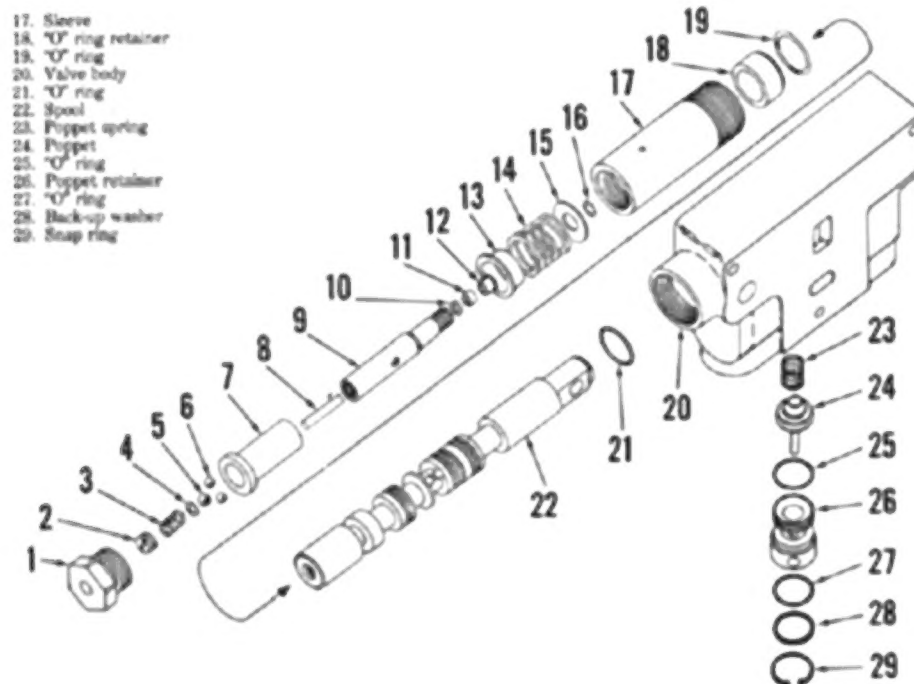
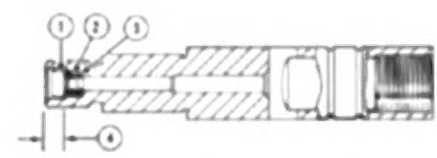

Fig. 182 - Exploded view of auxiliary control valve.
Fig. 183 - Sectional view of actuator in the auxiliary valve. Refer to text.
To disassemble, refer to Fig. 182 and proceed as follows: Remove end cap (1), then unscrew actuator (9) and remove actuator and detent assembly. Remove sleeve (17) and pull balance of parts from body. Check valve assembly can be removed at any time after removing snap ring (29). Detent (3, 4, 5 and 6) can be disassembled after removing plug (2). Push unlatching piston (8) out of actuator (9) with a long thin punch. Using a carburetor jet tool, remove actuator valve plug (12), "O" ring (11) and back-up washer (10).
Use all new "O" rings and reassemble by reversing the disassembly procedure. Be sure the bolt holes in the retainer (26) are lined up with bolt holes in body. When installing actuator plug (1 - Fig. 183), "O" ring (2) and back-up washer (3) should be installed to distance of 0.171-0.181 inch at (4). III tool for installing the plug is part number FES 143-7. Detent unlatching pressure is adjusted by plug (2 - Fig. 182). Unlatching pressure is 2000-2500 psi. Be sure filter in end cap (1) is clean (no paint) and in satisfactory condition.